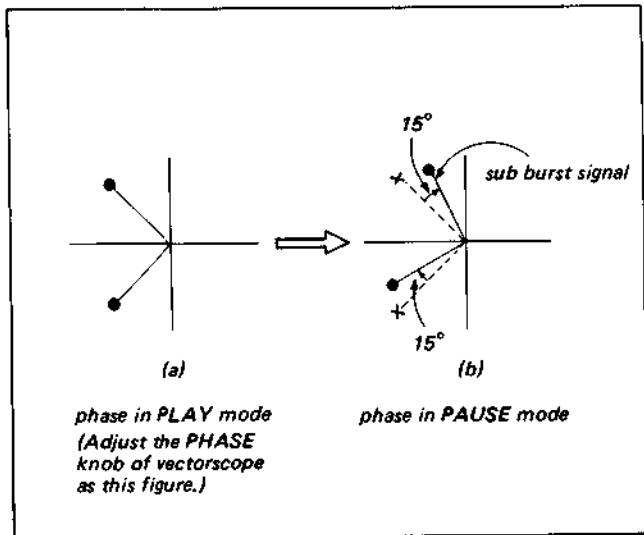

Fig. 4-40. Playback phase and sub-burst adjustments
- (1) Record the colour bar signal and play back the recorded segment.
- (2) Connect the vectorscope to TP27 (emitter of Q40).
- (3) In playback mode, adjust the PHASE knob on the vectorscope so that the burst signal is positioned properly. (see Fig. 4-40).
- (4) Set up the PAUSE mode.
- (5) Adjust RV23 so that the sub-burst signal is 15° delayed. (see Fig. 4-40).
- (6) Connect the oscilloscope to TP27.